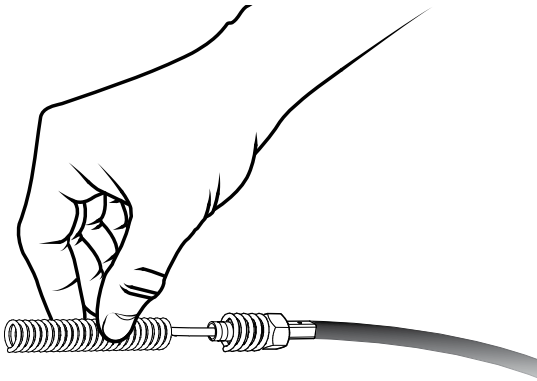

Figure 17. Clutch Return Spring
5. Finally, add the clutch return spring (Figure 17).